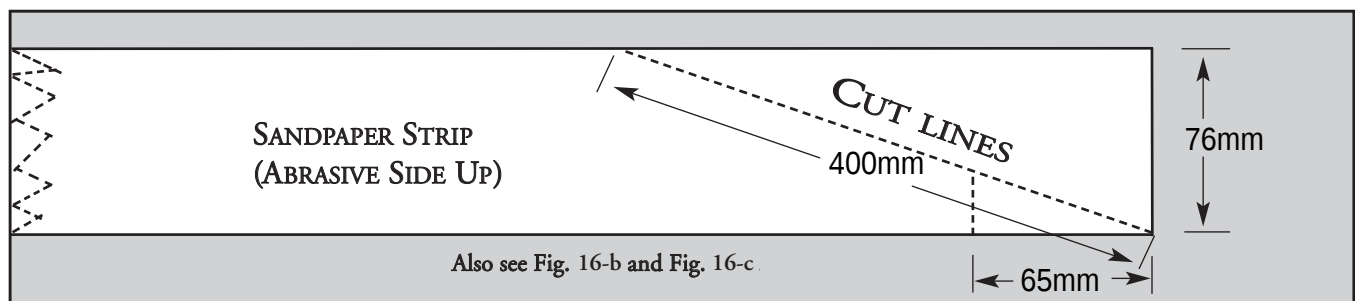
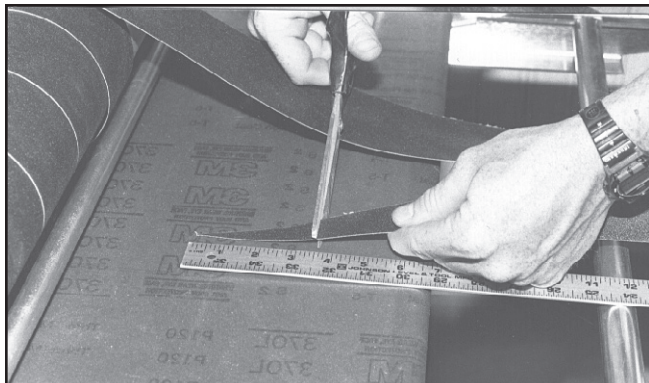
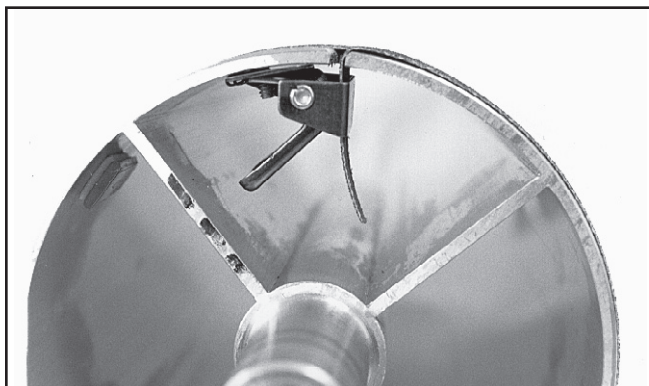

Fig. 16 Marking and cutting taper on strip.
Fig. 16B Trim about 65mm from end of cut taper.
Fig. 16D Insert tapered end into outboard slot.
1. Mark and cut a taper at one end of the roll as shown in Fig. 16. Because the tapered end should use most of the left (outboard) slot width, its end must be trimmed (Fig. 16B and 16C). Raise the clip lever on the left (outboard) side of the drum (Fig. 16D). Insert the tapered end through the slot and into the fastener so that it uses most of the width of the slot. Release the clip lever to securely hold the strip end in the fastener.